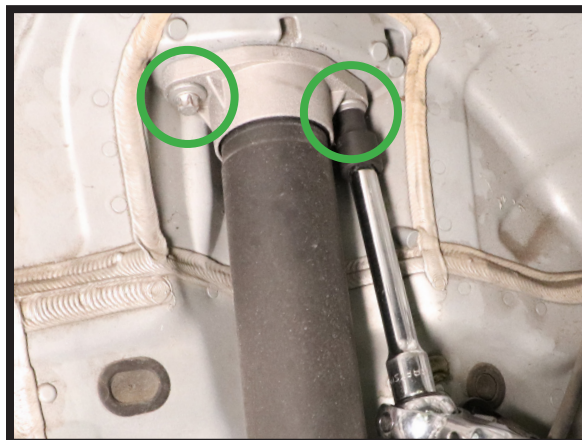

FIGURE 3
2. REMOVE THE TWO (2) TOP MOUNT BOLTS. (FIGURE 3)